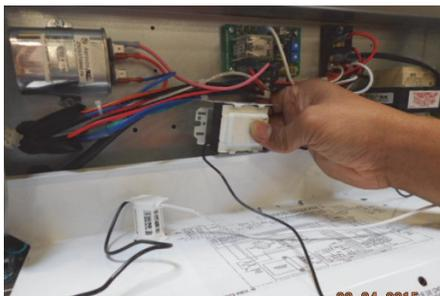
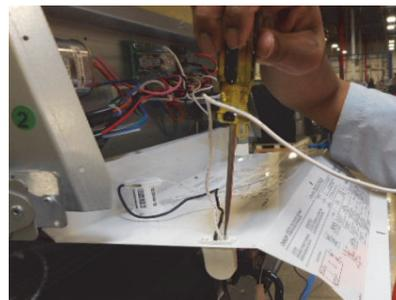

Figure 2A.
Figure 2B.
8. Remove the ballast, white wire (right side) and black wire (left side) from the electrical box using a sharp pointed tool and discard (See Figure 2A & Figure 2B). Remove the starter and discard.
10. Secure power supply using the same screws in the same orientation as shown in Figure 2B.